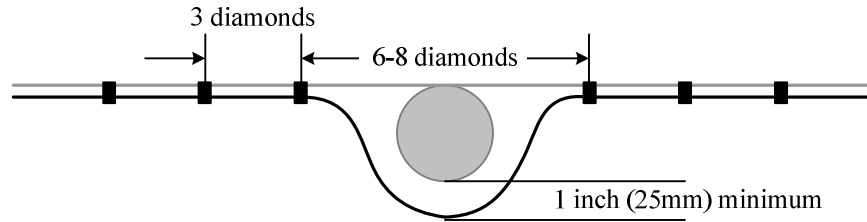

Figure 4.4 - Wrap Cable around Fence Post
Attaching the cable around fence posts requires care. In most cases the cable is on the “post side” of the fence fabric. Be sure to avoid sharp bends in the cable. As shown in Figure 4.4 leave enough slack around the post so there is a one (1) inch (25mm) gap between the MicroPoint™ Cable and the post. This slack prevents damage to the cable when someone climbs on the fence and pulls the fabric away from the fence post.